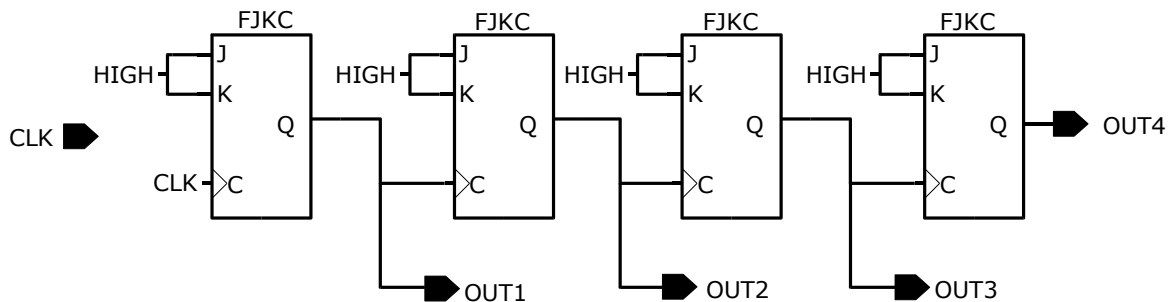

Figure 7-3. The schematic of a frequency divider circuit implemented with JK FFs.
- Figure 7-3 shows the schematic of a frequency divider circuit. Verify the operation of this frequency divider. Determine the frequencies of each output if the input CLK frequency is f .
- It is known that the circuit in Figure 7-3 is also a ripple **down** counter. Modify the circuit so that it counts **up**.